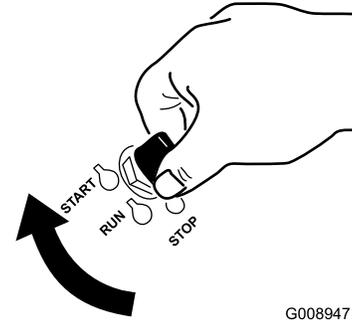

Figure 15
1. Turn the ignition key to the Start position (Figure 15).